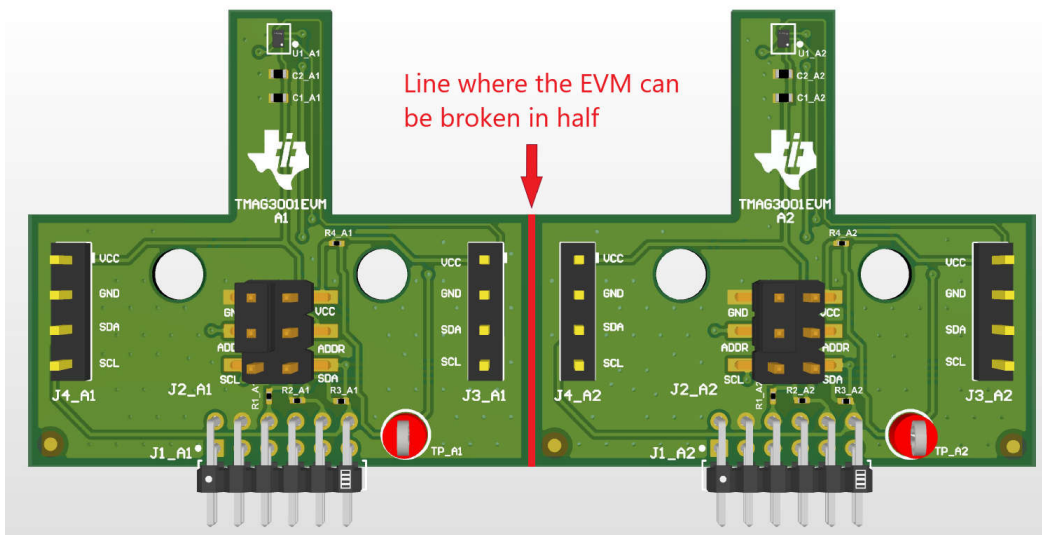

Figure 3-1. TMAG3001EVM With A1 and A2 Still Joined Together
1. Gently flex the panel at the score line shown in Figure 3-1 to split the board in half for a more compact form factor. This split provides separate boards for the TMAG3001A1 and TMAG3001A2 portions of the original board.